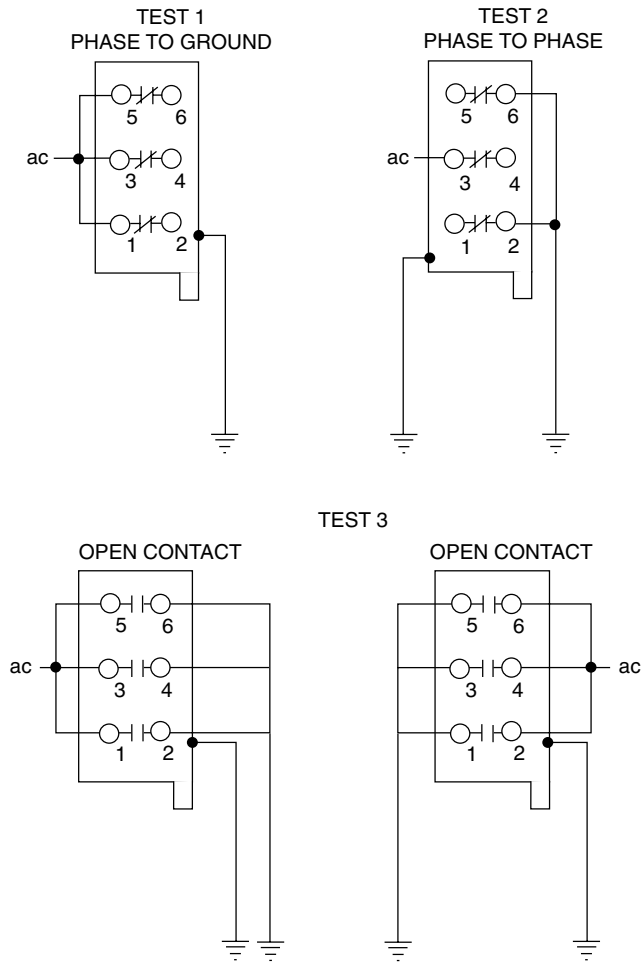

Figure 10. High potential withstand testing connection diagrams
2. While the first person continues to maintain enough pressure to hold against the stop, the second person releases the trip lever (Figure 10) by moving it to the right.